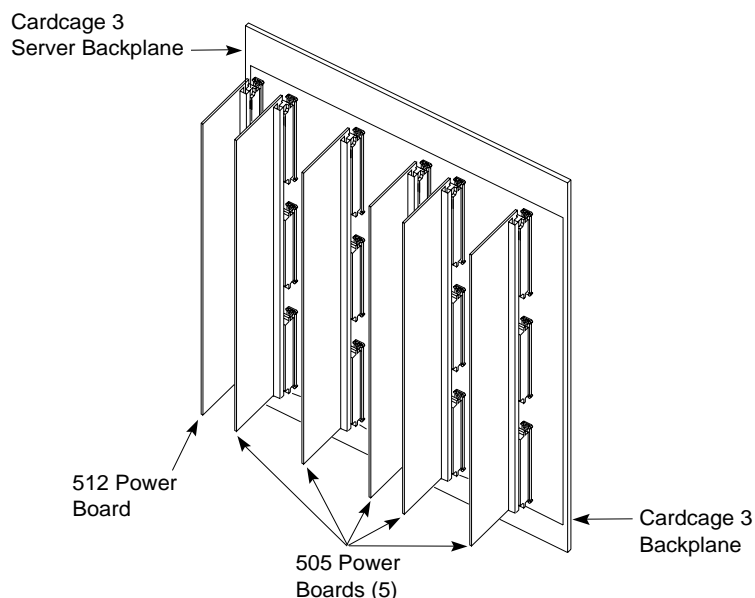

Figure 3-62 Cardcage 3 Power Board Installation
5. Install one 512 Power board and three 505 Power boards in the locations shown in Figure 3-62.